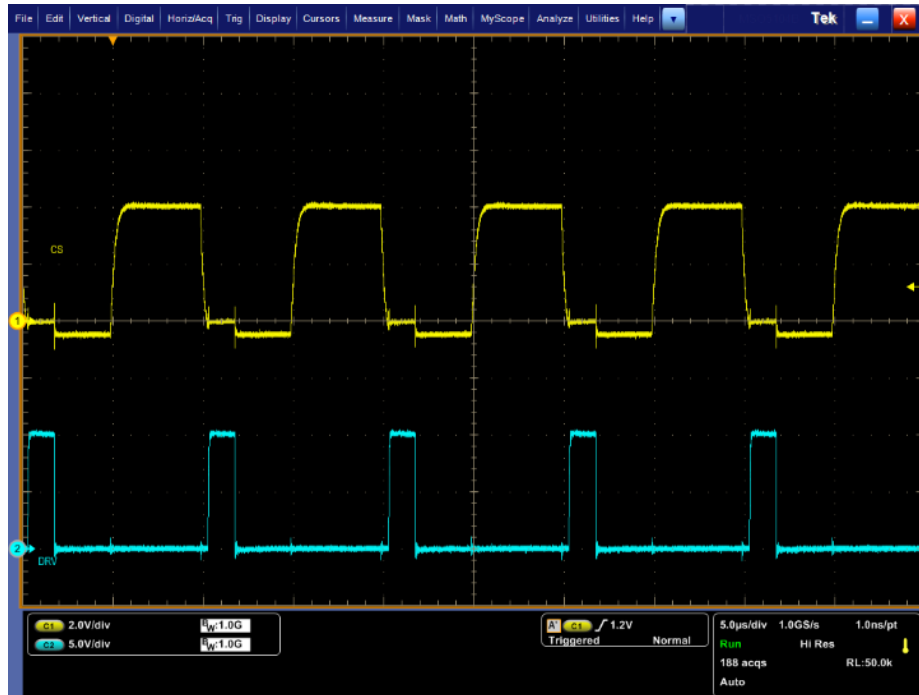

Figure 2:  $V_{CC} = 12\text{ V}$ ,  $f = 100\text{ kHz}$ ,  $DC = 50\%$ ,  $V_{LOW} = -1\text{ V}$ ,  $V_{HIGH} = 4\text{ V}$
4. Check that  $I_{CC} = 5 - 7\text{ mA}$ , waveforms look like in figure 2 (DRV pulse length may oscillate between 1.5 us and 5 us)